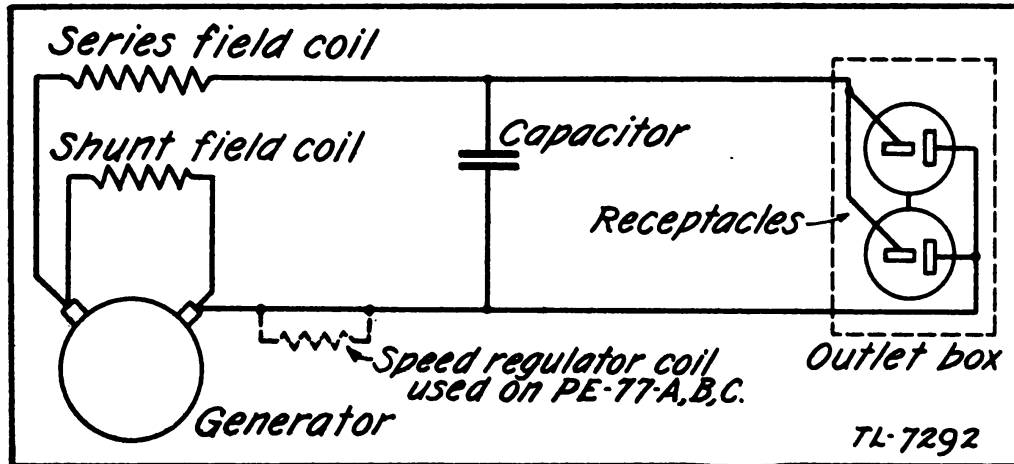

Figure 25.—Power Unit PE-77-E, connection diagram
40. GENERATOR.—*a.* The generator of Power Unit PE-77-(*) will require very little attention, with the exception of replacement of brushes and a regular examination of the commutator to make sure there is good electrical contact between it and the brushes. Oil, grease, or dirt will affect the output of the generator and cause sparking at the brushes. The generator must be inspected regularly by removing the end cover, which is fastened to the generator frame by three machine screws. Figure 25 shows the circuit diagram and figure 28 the parts of the generator. No lubrication is required.